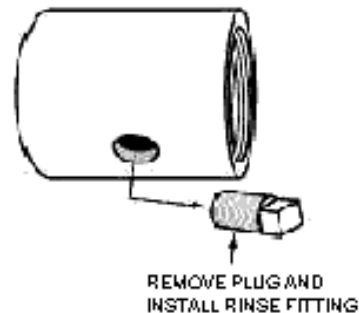

Figure 2.2.3b
3. Remove the plug from the mixing chamber located by the vacuum breaker on the back of machine and install the rinse injection fitting (supplied with your dispenser). See Figure 2.2.3b.
2. Remove the plug from the mixing chamber located by the vacuum breaker on the back of machine; and install the rinse injection fitting (supplied with your dispenser). See Figure 2.2.3b.